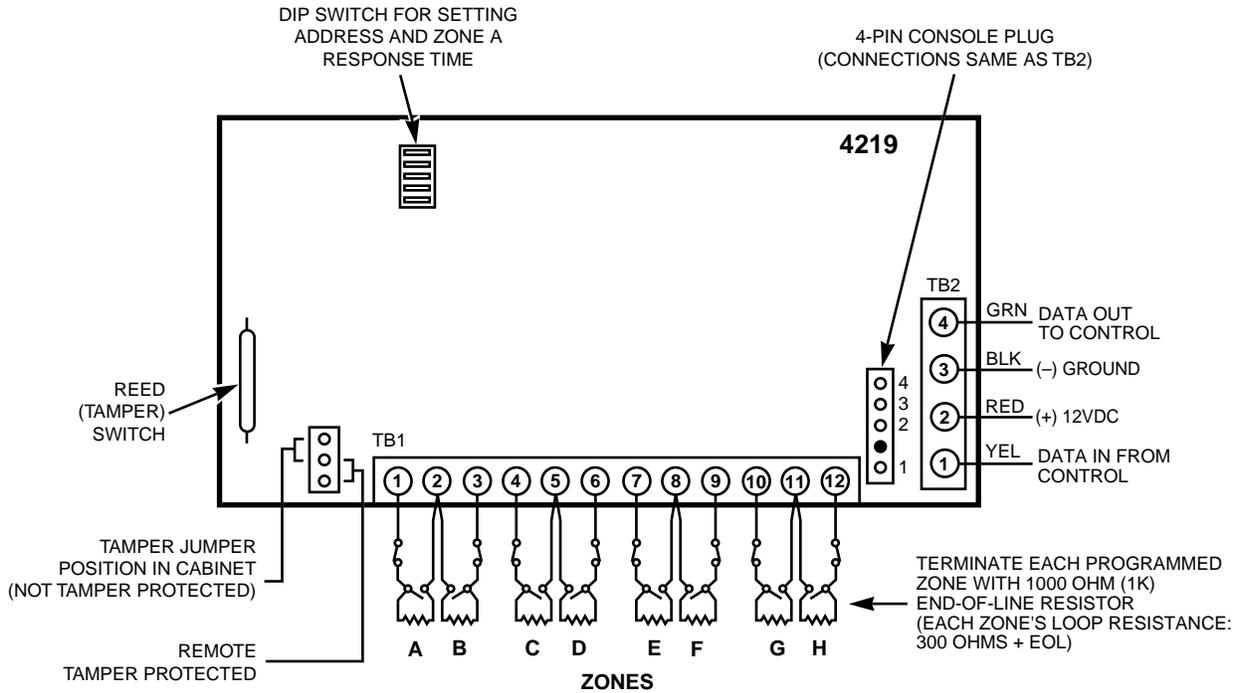
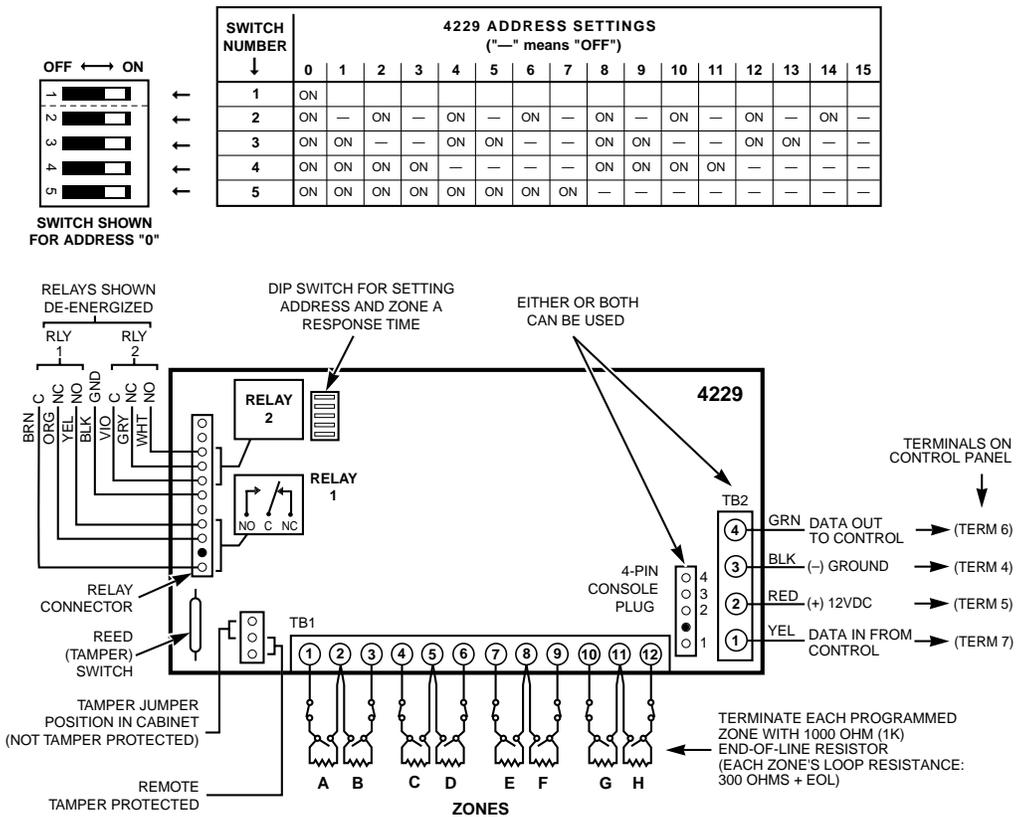

Figure 10. Wiring Connections - 4219 Expansion Module
Figure 11. Wiring Connections - 4229 Expansion/Relay Module
- Assign zone numbers 10–17 for the eight wired expansion loops (designated A to H in *Figure 10* and *Figure 11*). You can program these zones individually (in *56 Zone Programming Mode or *58 Expert Programming Mode). Expansion zones must also be programmed as input type 2 (AW) when prompted.
1. Connect the 4219 or 4229 module to the control's keypad terminals (see **Figure 10. Wiring Connections - 4219 Expansion Module** or **Figure 11. Wiring Connections - 4229 Expansion/Relay Module**).